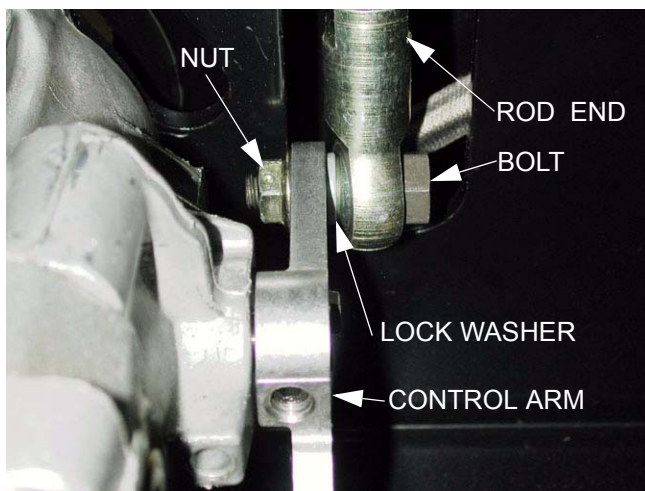

Figure 5.11
- 5.11. Disconnect the rod end on the back of the hydro control rod from the control arm on the hydro pump using a 9/16" wrench, and a 1/2" wrench. See Figure 5.11.